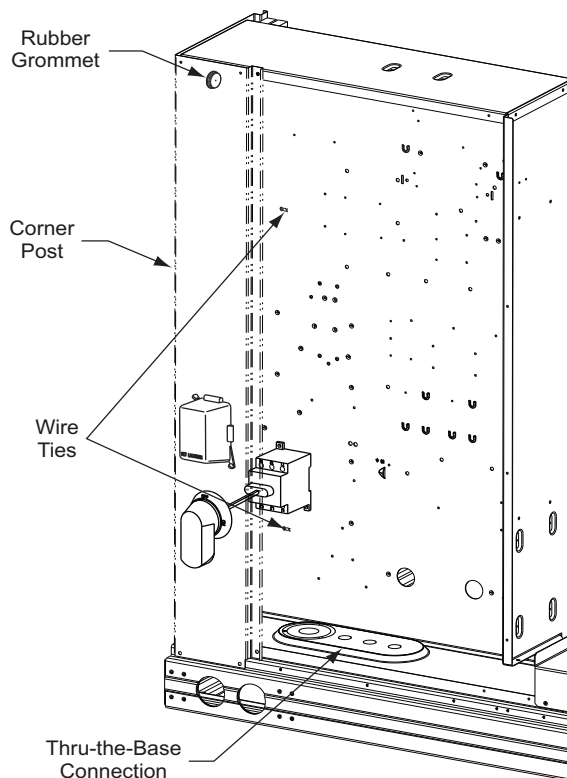

Fig. 49 — Wire Ties for Low Voltage Wiring
All low-voltage wiring should be routed through the provided wire ties (see Fig. 49) down the left side of the control box or secured to the unit control box with an electrical conduit in order to provide UL-required clearance between high-voltage and low voltage wiring.
Correctly rated low voltage wire can be routed through the rubber grommet located on the corner post adjacent to the control box access panel. Route wire through the grommet and then route the wire behind the corner post utilizing the factory provided wire ties secured to the control box. This will ensure separation of the field low voltage wire and the high voltage circuit. Route the low voltage wire to the unit control board. See Fig. 49.
2. Feed wires through the wire ties down the left side of the control box (see Fig. 49) to the 24-v barrier located on the left side of the control box. This provides the UL-required clearance between high-voltage and low-voltage wiring.